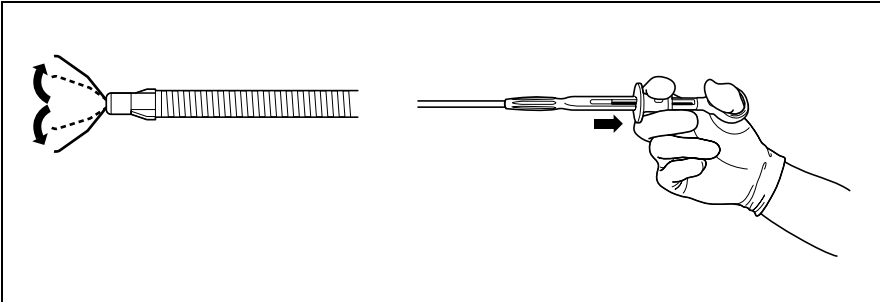

Figure 3.10
2. Pull the slider slowly towards you to open the clip (see Figure 3.10).